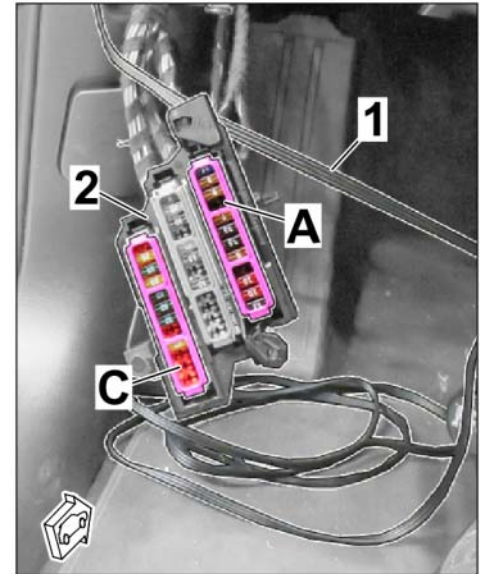

Figure 14 (LHD vehicle)
- Roof console → under headliner along windshield frame → left A-pillar (top) → along A-pillar → fuse carrier on dashboard (left ⇒ *Figure 14 (LHD vehicle)*) → BK 0.5² line → ground pin (LHD: MB21 /)